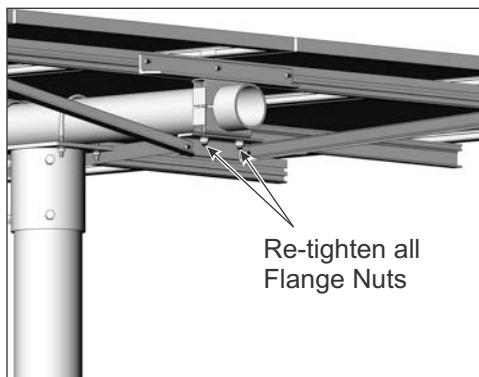

Figure 8-3: Re-tighten Flange Nuts
- C. Re-tighten all of the 1/2 inch flange nuts on each of the carriage bolts. **Torque all to 60-70 ft-lbs.** (See Figure 8-3)